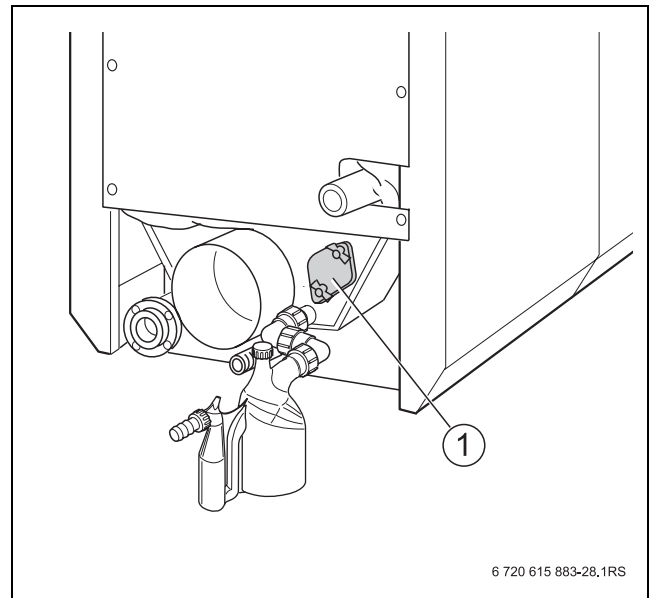

Fig. 32 Inspection aperture flue gas collector
- ▶ Check that the inspection opening of the flue gas collector is closed (→ Fig. 32, page 42).
- ▶ Do not block up the condensate drain (→ Fig. 32, page 42) when cleaning.